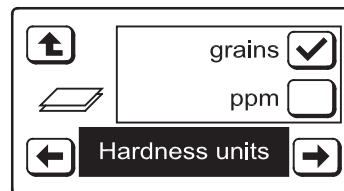

FIG. 74
6. Press the LEFT (←) button to display the **Hardness units** screen (See Figure 74).